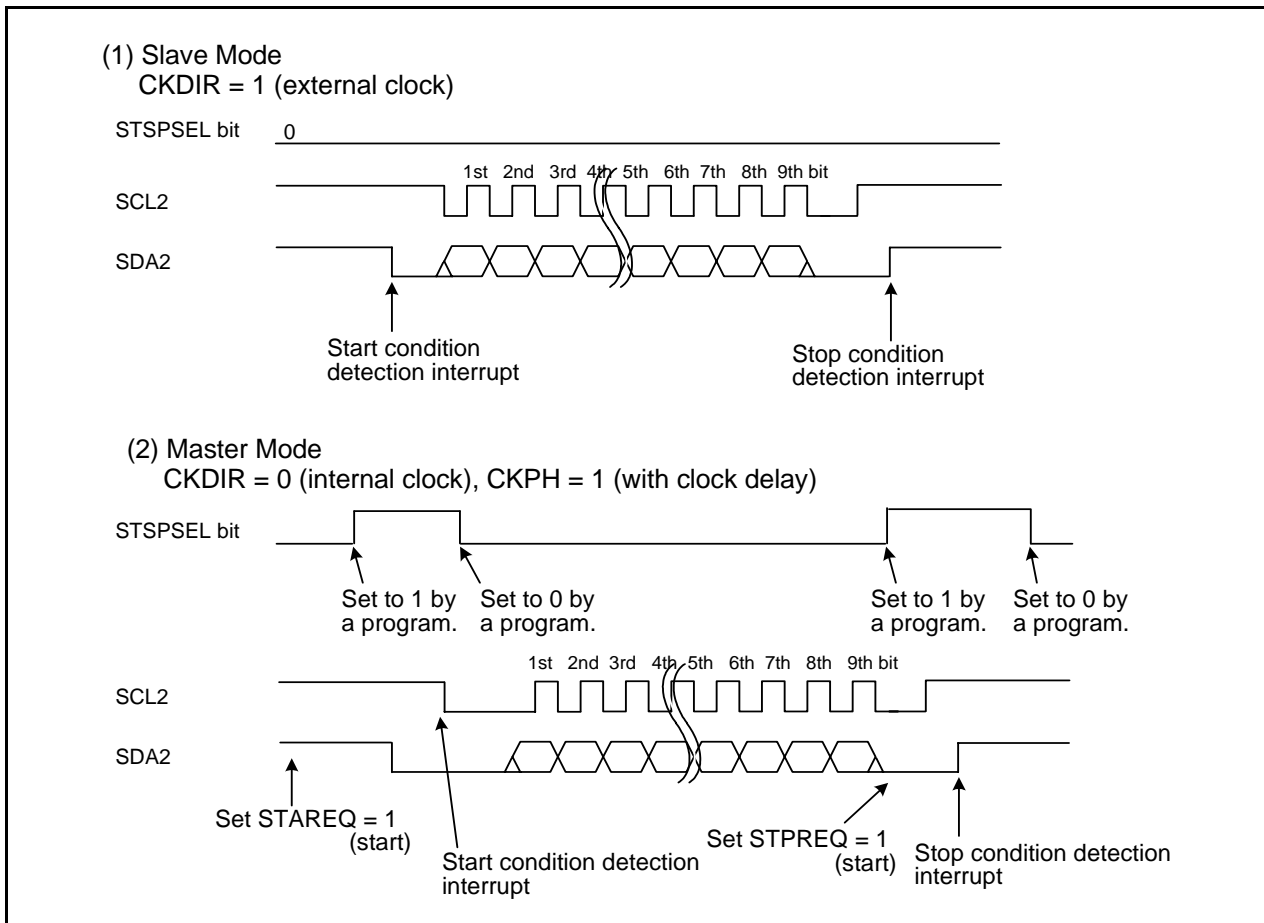

Figure 23.17 STSPSEL Bit Functions
5. Refer to **Figure 23.17 STSPSEL Bit Functions**.
Table 23.13 lists the STSPSEL Bit Functions. Figure 23.17 shows the STSPSEL Bit Functions.